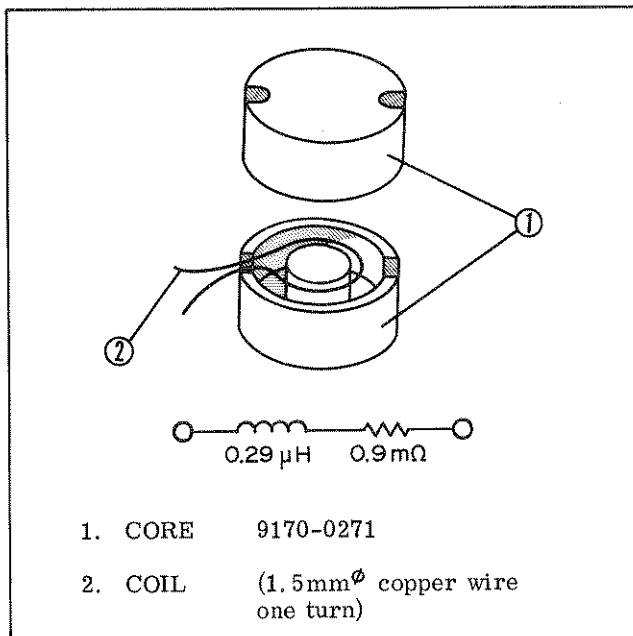

Figure 5-2.  $(0.9m\Omega + j1.8m\Omega)$  Impedance
- a. Set the Model 4328A range to  $1\text{m}\Omega$  and measure an impedance of  $(R + j\omega L)$  as shown in Figure 5-2, where R should be calibrated by DC bridge and the reactance value twice that of R.